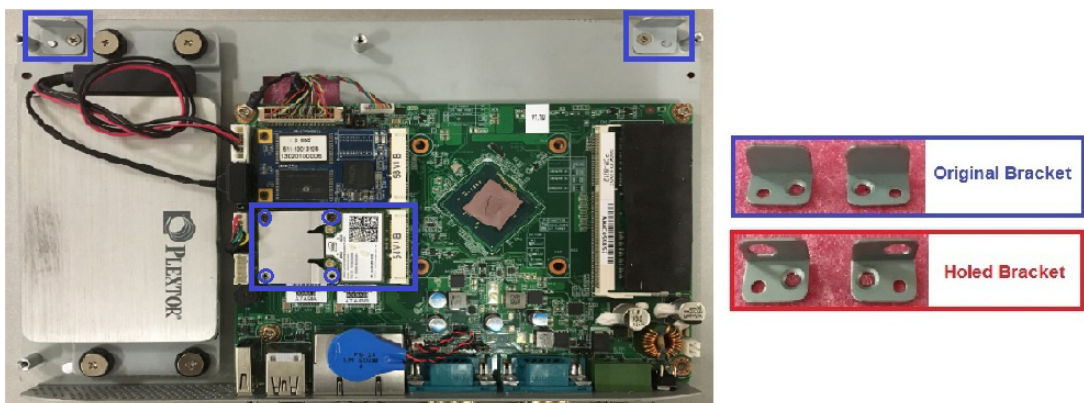

Figure 2.14 Install wireless LAN card
1. Get the hexagonal screw from the accessory box, locate it to the notch on the PCB and secure it. (See Figure 2.14)